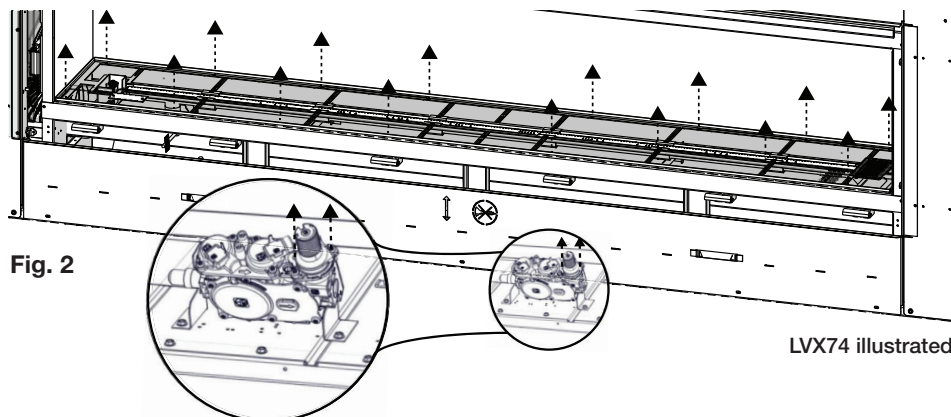

Fig. 2
- ☐ 3. Remove the screws that secure the entire burner assembly in place (the number varies by model) **(Fig. 2)**. Lift the entire burner assembly up and out of the appliance. Remove the air shutter adjustment rod. Set both aside.
- ☐ 5. Remove the two screws from the valve regulator and remove the regulator, replace with the one supplied **(Fig. 2)**.